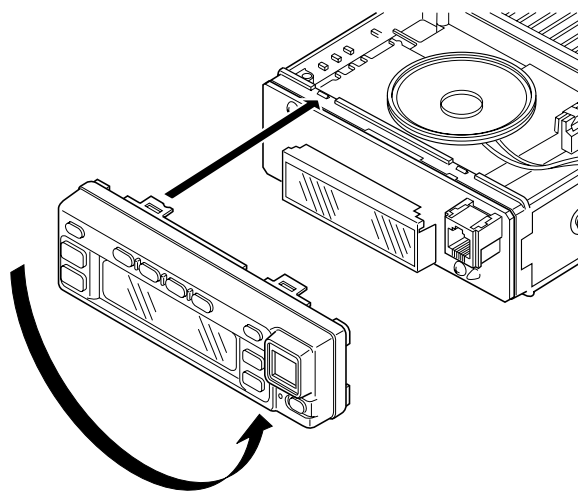

Fig. 14
6. Rotate the control panel 180 degrees and mount it on the transceiver. Refit the two halves of the case to complete installation. (Fig. 14)